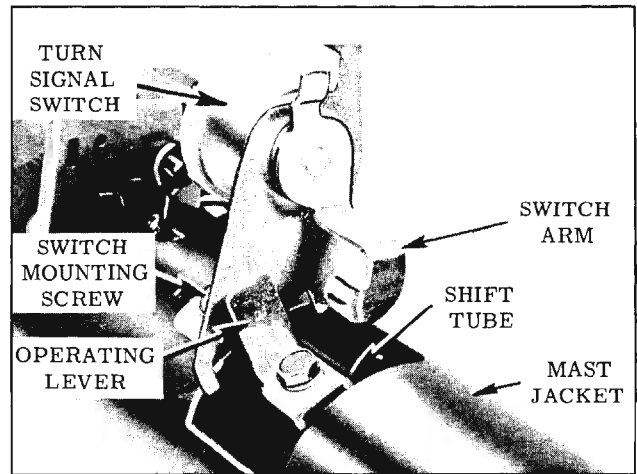

Fig. 13-124 Back-Up Lamp Switch (Neutral)
4. Move shift lever to neutral. Switch arm should be against stop and back-up lamps should be off. (Fig. 13-124)